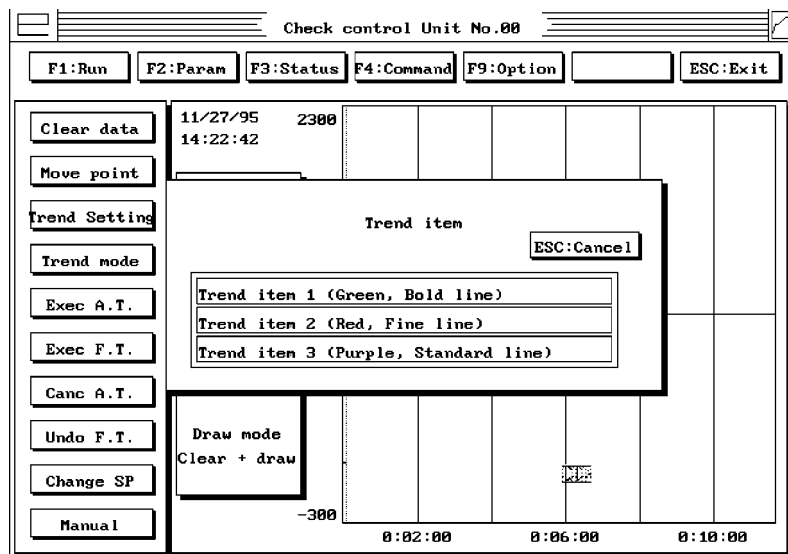

Figure 24
3. Select **Trend Item 1** (Green, Bold Line). Refer to (Figure 24).